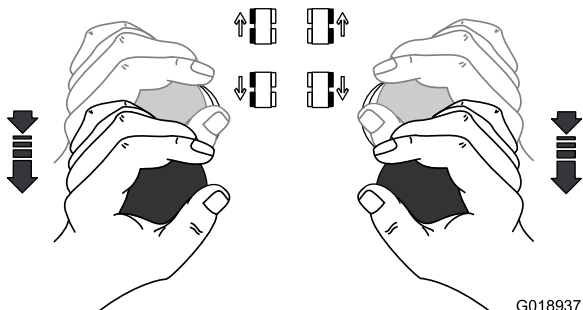

Figure 39
- To move the machine **backward**, grasp the traction-control levers with your hands and pull back on both levers. To stop the machine, return the levers to the neutral position (Figure 39).